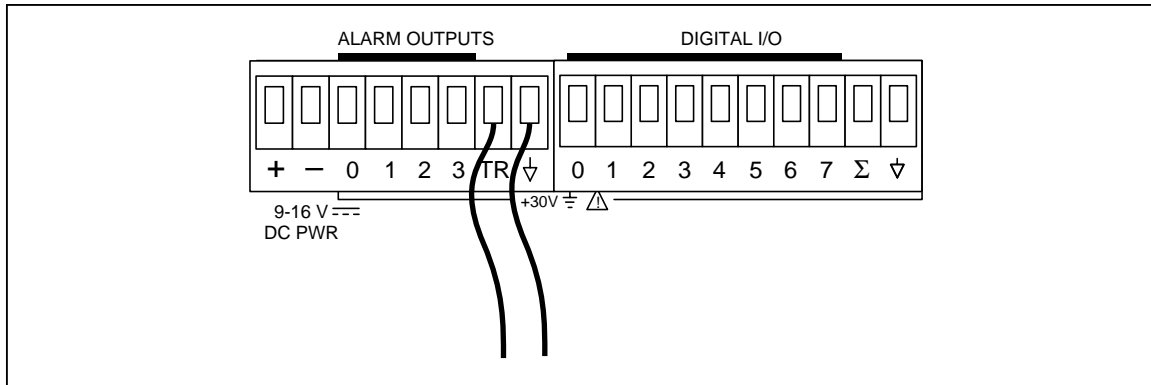

Figure 6-5. External Trigger Test
2. Remove the Alarm Output eight terminal connector module from the rear of Hydra Series II and all external connections to it. Connect short wires (to be used as test leads) to the ground ( $\perp$ ) and TR terminals. Leave other ends of wires unconnected at this time. Reinstall the connector. Refer to Figure 6-5.